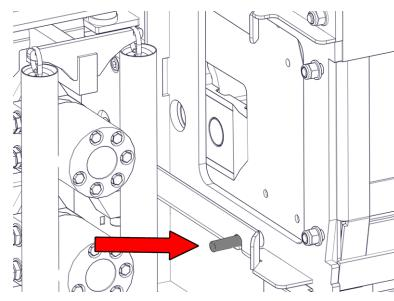

Figure 24 - Locking Bar Inserted
5. Insert locking bar through rotor housing and rotor (Figure 24).